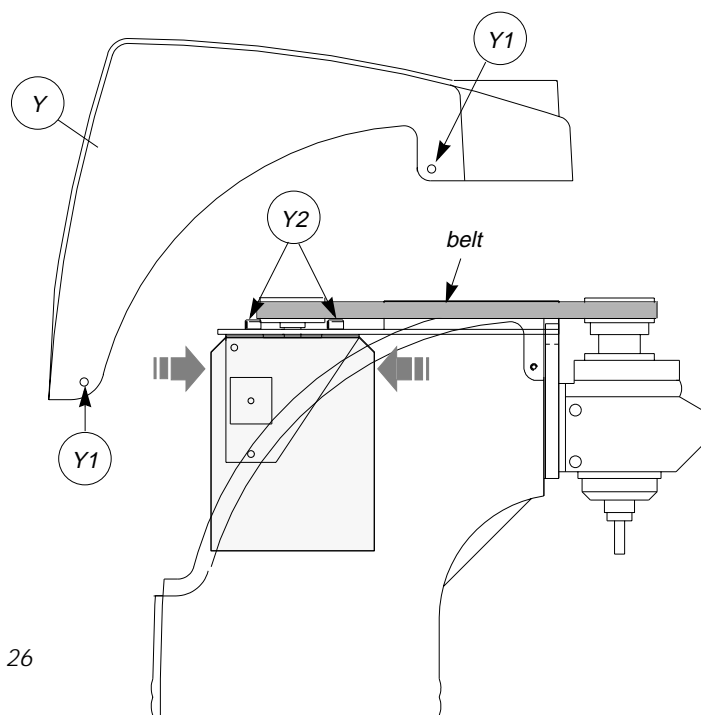

Fig. 26
2. loosen the four screws (Y1) and remove the upper casing (Y) (Fig.26).